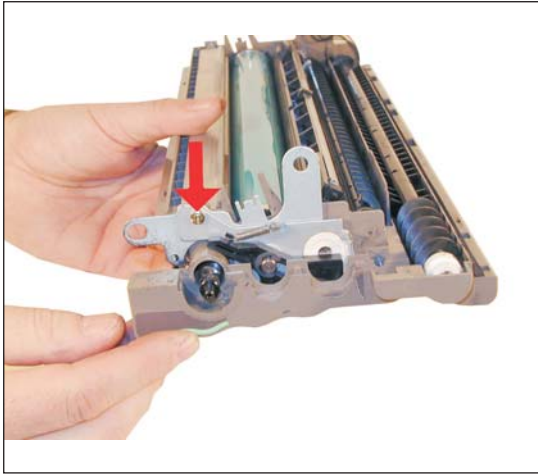

Figure 23
17) On the same side of the cartridge, remove the top left screw on the drum plate. See Figure 23